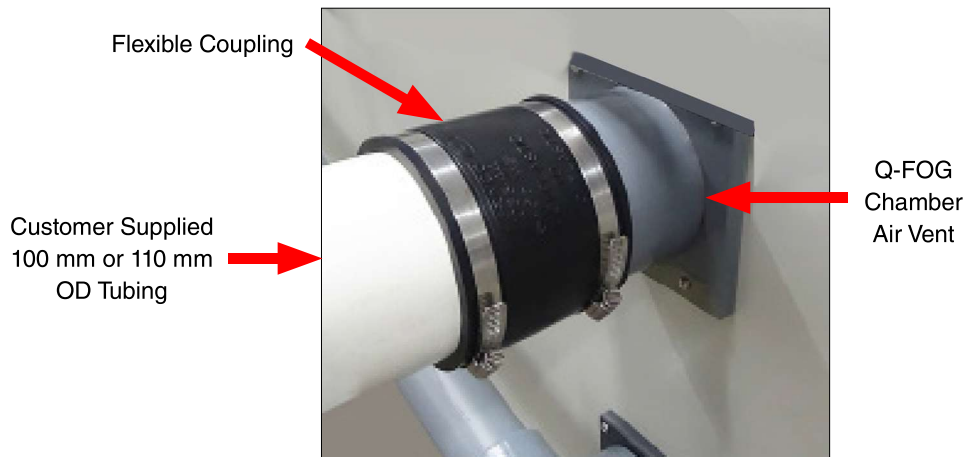

Figure 6.7b: Metric kit flexible coupling installed for straight out venting.
- Optionally, for connection to an exhaust system having 100 or 110 mm outside diameter tubing, a metric installation kit (part number F-70099-K) is available. See Figure 6.7b, c and d for various metric installation configurations.